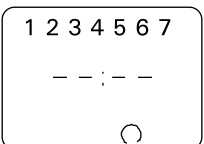

Figure 11.
- using the [manual] -button press the programming mode symbol in the screen. The clear arc symbol indicates that the heater will go off at the programmed time in the screen. (Fig. 11)